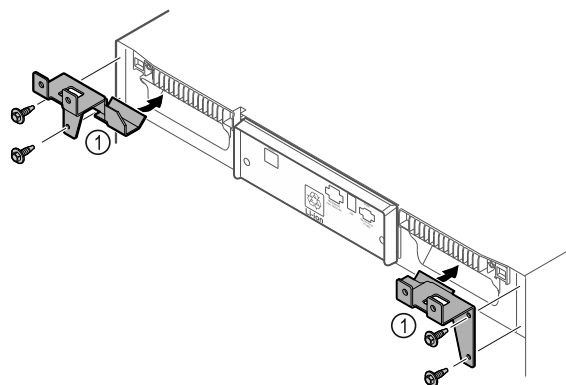

Fig. 11
- ▶ Fit the retaining parts Fig. 11 (1) to the device with self-tapping screws.